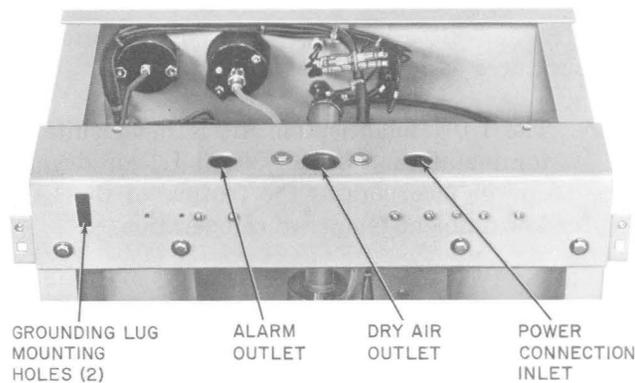

Fig. 7—External Connection Facilities—KS-20183 L2 and L3 Air Dryers
- 2.03** Remove the dust cap from the dry air outlet (Fig. 7).
- 2.08** Mount a KS-5517 L1 grounding lug in the holes provided at the back top left-hand corner of the dryer cabinet (Fig. 7). Connect the station ground to the grounding lug.